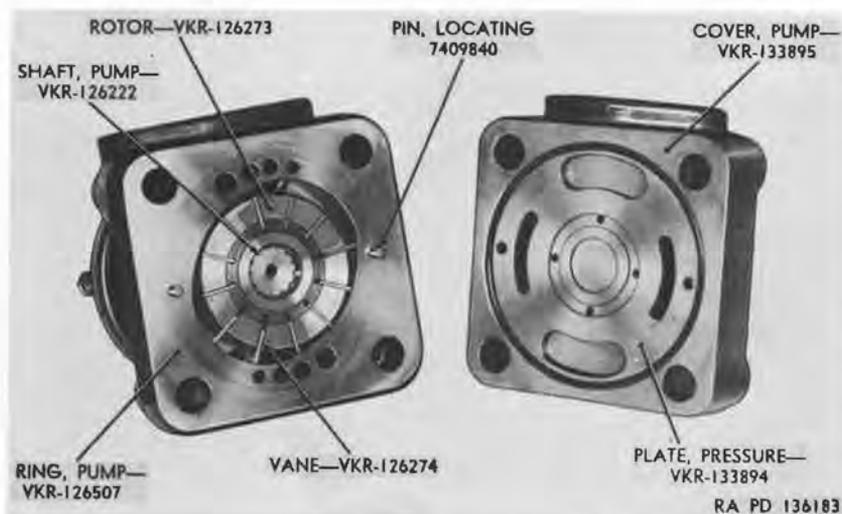

Figure 31. Hydraulic pump with cover removed.
Disassembly of the hydraulic vane type pump (fig. 33) is accomplished by removing the four cap screws (A) and plain washers (T) that hold the pump cover in place. This will release the pump cover (B), the pressure plate (C), O ring gaskets, and the pump ring (fig. 31). Discard O ring gaskets (R). In addition to the cap screws, the pump ring is held in place by two locating pins (F) which are a slip fit in the pump ring and pump body. Make a note of the relative position of the rotor (E), vanes (Q), and pump ring (D) so